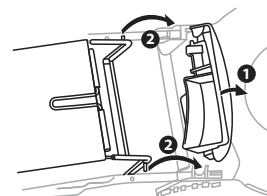

Fig.10
1. Raise the rear discharge cover (1, Fig.10).
2. Attach the grass catcher by inserting its frame hooks onto the groove on the mower housing (2, Fig.10)